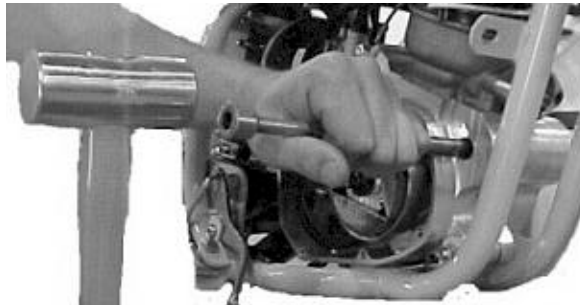

Figure 25
12. Heat engine case around area of impeller lightly with a small Burnsmatic propane torch. Using a 3/8" diameter x 8" long steel rod, tap impeller assembly out of engine as shown in figure 25.